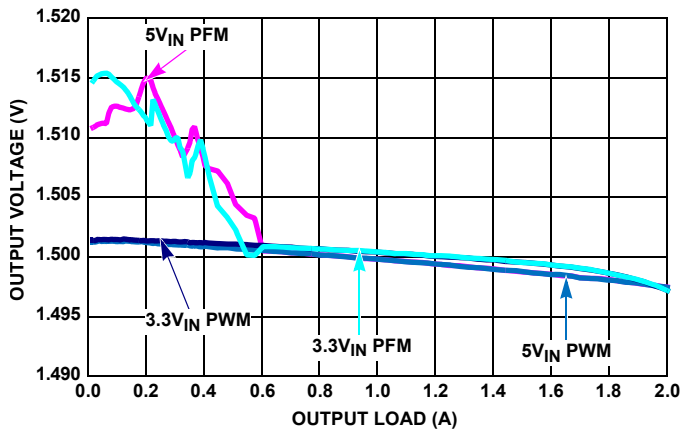

FIGURE 10. V_{OUT} REGULATION vs LOAD, $f_{SW} = 2\text{MHz}$, $V_{OUT} = 1.5\text{V}$,
- Not tested in production. Characterized using evaluation board. Refer to Figures 10 through 12 load regulation diagrams. $T_A +105^\circ\text{C}$ represents near worst case operating point.